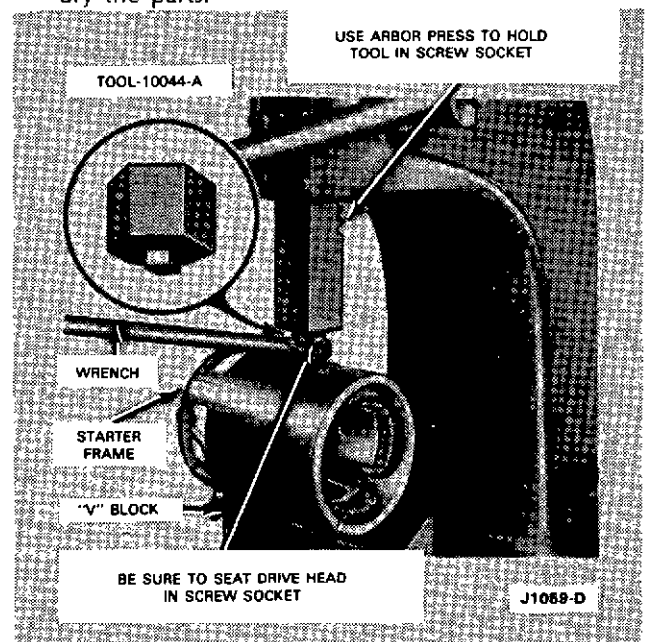

FIG. 9 Pole Shoe Screw Removal
8. Remove the three coil retaining screws, using Tool 10044-A and an arbor press (Fig. 9). The arbor press prevents the wrench from slipping out of the screw. Unsolder the field coil leads from the terminal screw, and remove the pole shoes and coils from the frame. Use a 300-watt iron.
2. Position the coils and pole pieces, with the coil leads in the terminal screw slot, and then install the retaining screws (Fig. 9). As the pole shoe screws are tightened, strike the frame several sharp blows with a soft-faced hammer to seat and align the pole shoes, then stake the screws.